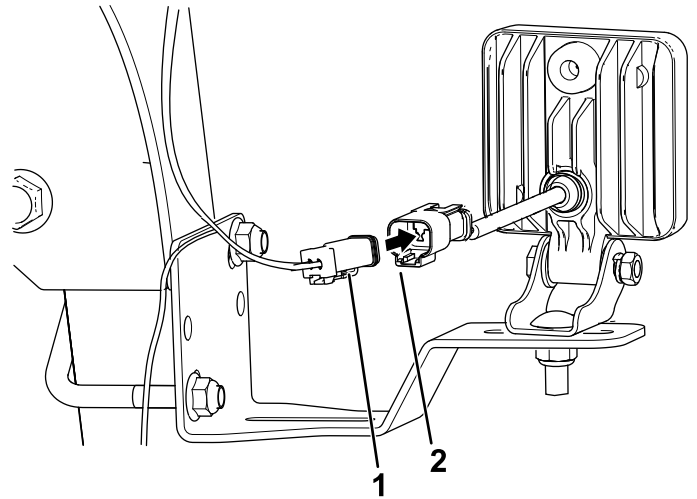

Figure 19
1. At the LED light above the light switch, connect the 2-socket connector of the wire harness onto the 2-pin connector of the LED light (Figure 19).
2. At the other side of the machine, connect the 2-socket connector of the wire harness onto the 2-pin connector of the LED light (Figure 19).